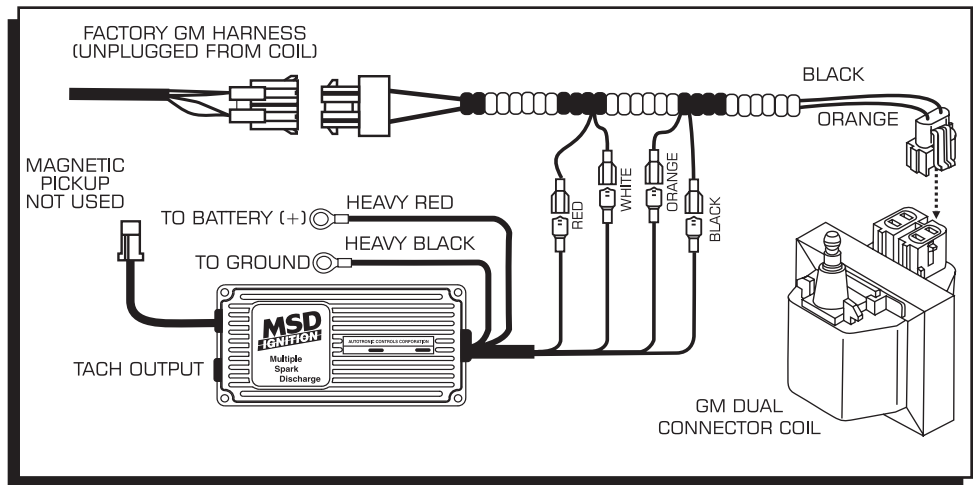

Figure 2 Installation with an MSD 6 or 7 Series Ignition Control.
All of the wires connect to the corresponding colored wires (Figure 2). MSD 7 Series Ignitions share the same color wires.
2. Connect the Black then Gray connector to the MSD PN 8876 Harness (Figure 2).